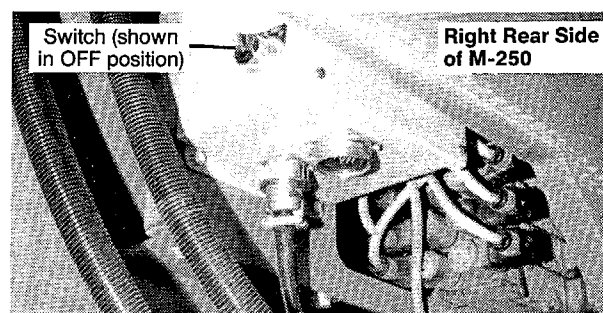

FIGURE 4 POWER SWITCH
16. Turn power switch to ON (Figure 4) to pressurize jacking system.
30. Fully RETRACT jacking cylinders so crawlers are supporting the machine. Then turn power switch to OFF (Figure 4).
3. Turn power switch to ON (Figure 4) to pressurize hydraulic jacking system.
15. Fully retract jacking cylinders and turn power switch to OFF (Figure 4).